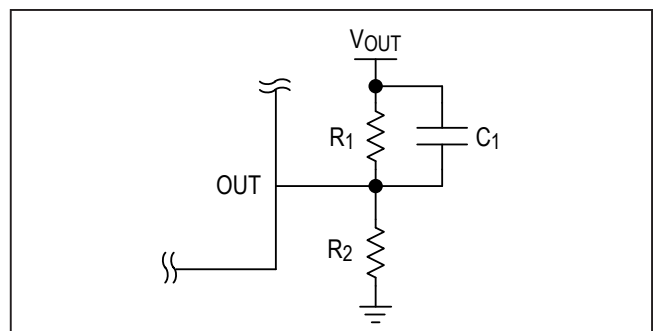
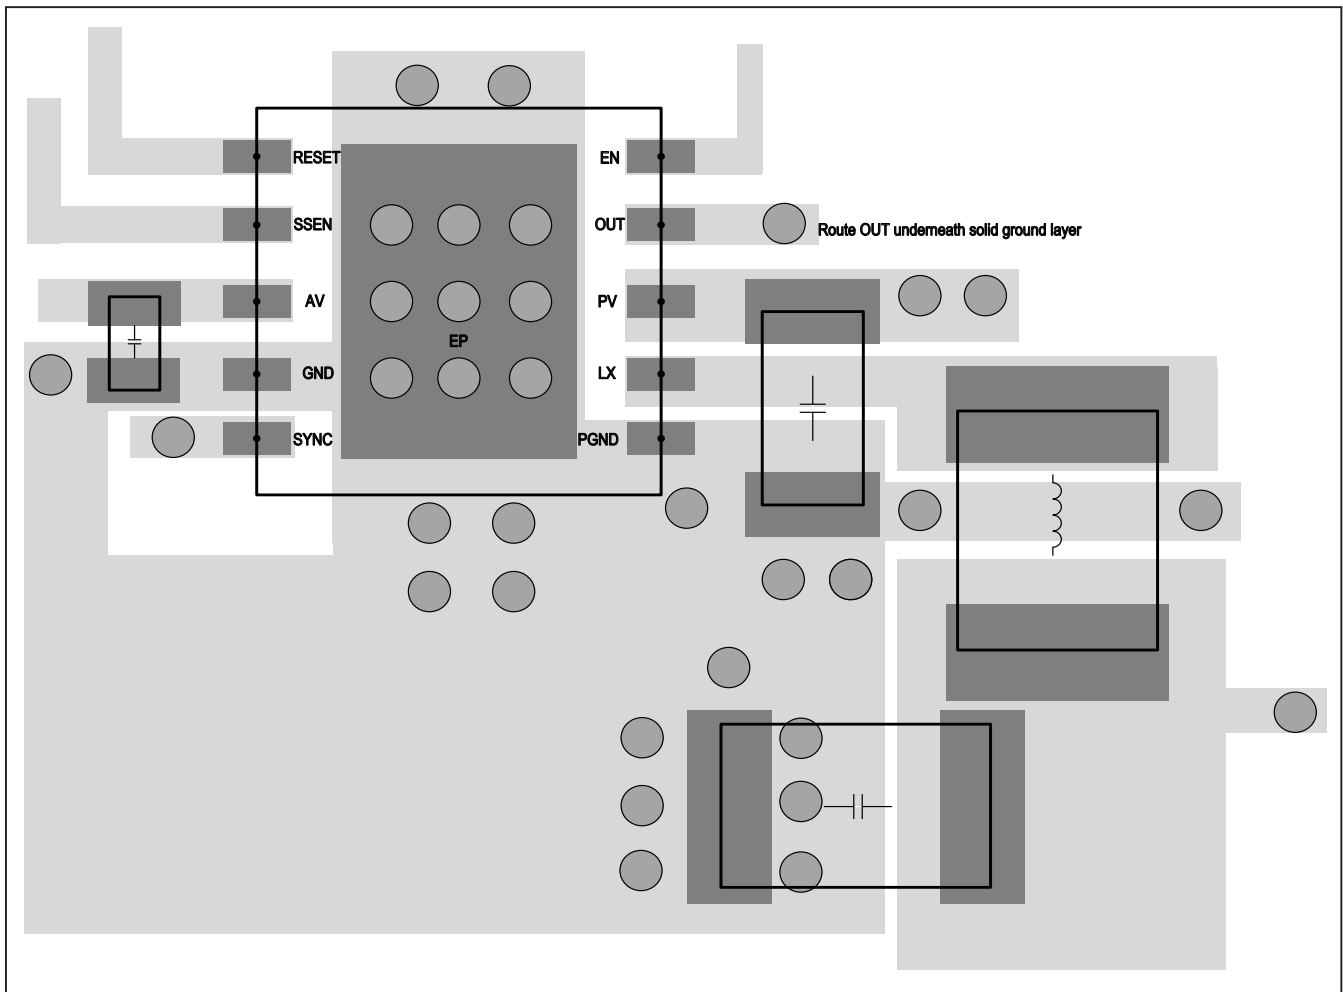

Figure 1. Adjustable Output-Voltage Configuration
Figure 2. Example Layout of IC and DC-DC Components
The devices' adjustable output-voltage version allows the customer to set the outputs to any voltage between 0.5V and approximately $PV - 0.5V$ (see Ordering Information). The actual maximum output-voltage setting will be limited by the specific application conditions and components. Connect a resistive divider from the output capacitor (V_{OUT}) to OUT to GND to set the output voltage (Figure 1). Select R_2 (OUT to GND resistor) $\leq 100k\Omega$. Calculate R_1 (V_{OUT} to OUT resistor) with the Equation 5.
- Place several vias in the exposed pad (EP) and connect them all to ground layers below the part. EP is attached to the die with epoxy, making it a good method for transferring heat out of the IC. An array of 0.3mm-diameter vias is recommended.
- The layer directly below the IC and DC-DC components should be a solid ground plane. Connect the GND and PGND pins of the device and components together with a low-impedance connection and add several vias to ground near those pins. Do not split the ground plane at or near the circuit. See Figure 2 for an example layout of the IC and DC-DC components.
| 1 | 7/18 | Updated Typical Application Circuit, Absolute Maximum Ratings, Pin Description, Internal Block Diagram, Synchronization (SYNC), Input Capacitors, Inductor Selection, Figure 1, and added PCB Layout Guidelines and Figure 2 | 1,2, 5–10 |